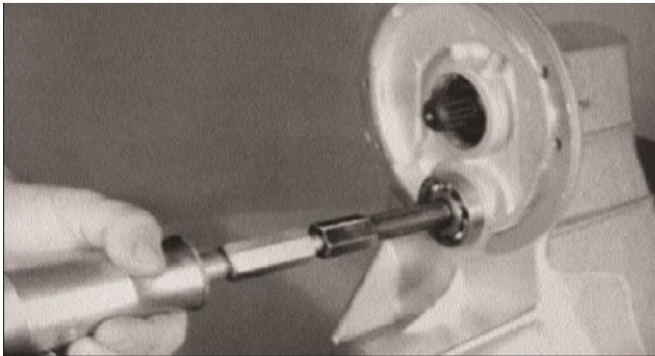

Figure 7-16
14. Using a brass drift pin, drive the intermediate shaft (9) from the flange side of housing. Shaft should travel far enough to allow engagement of I.D. bearing puller.
15. Using an I.D. bearing puller attached to a slide hammer, remove intermediate bearing (11) from flange side of housing. See Figure 7-16.